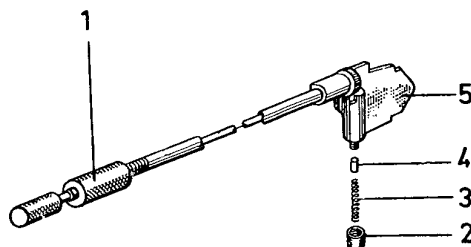

Fig. 49
67. The flint lighter (see fig. 49)